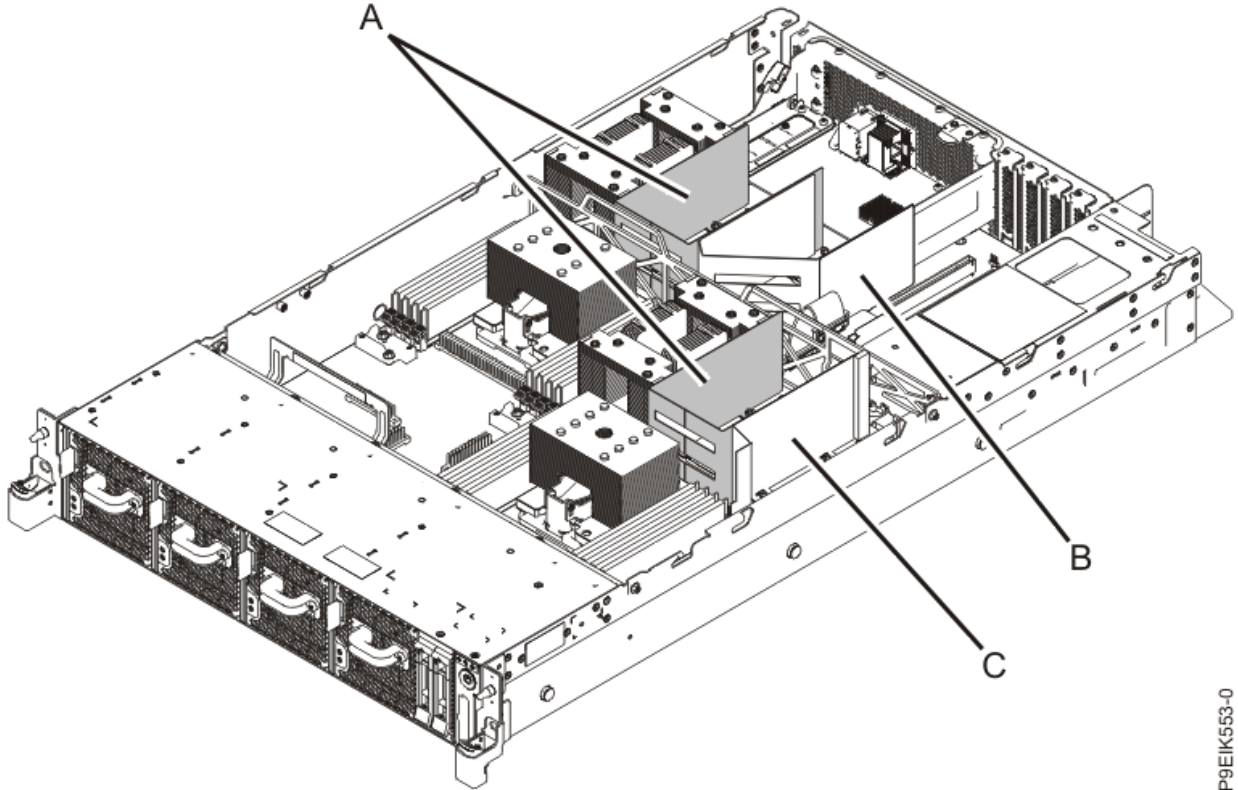

Figure 21. GPU air fillers (A) and baffles (B and C)
2. Remove the two GPU fillers (**A**) that are in the locations of the GPU sockets as shown in Figure 21 on page 25. The two air baffles (**B**) and (**C**) must remain in place to ensure proper cooling.